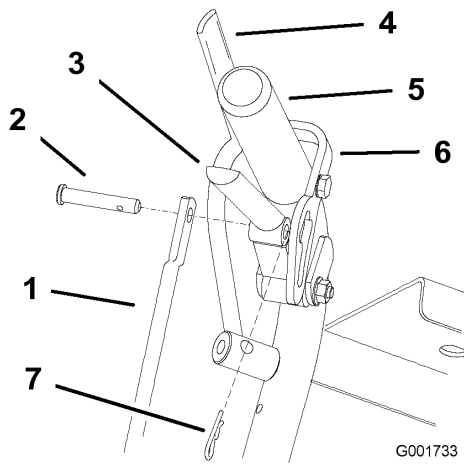

Figure 41
1. Adjust the rod length by releasing the drive lever and removing the hairpin cotter pin and clevis pin. Rotate the rod in the rod fitting (Figure 41).
4. Place the clevis pin into the drive lever (Figure 41).
- Install the hairpin cotter pin between the drive levers and the neutral locks and into the clevis pins (Figure 41).